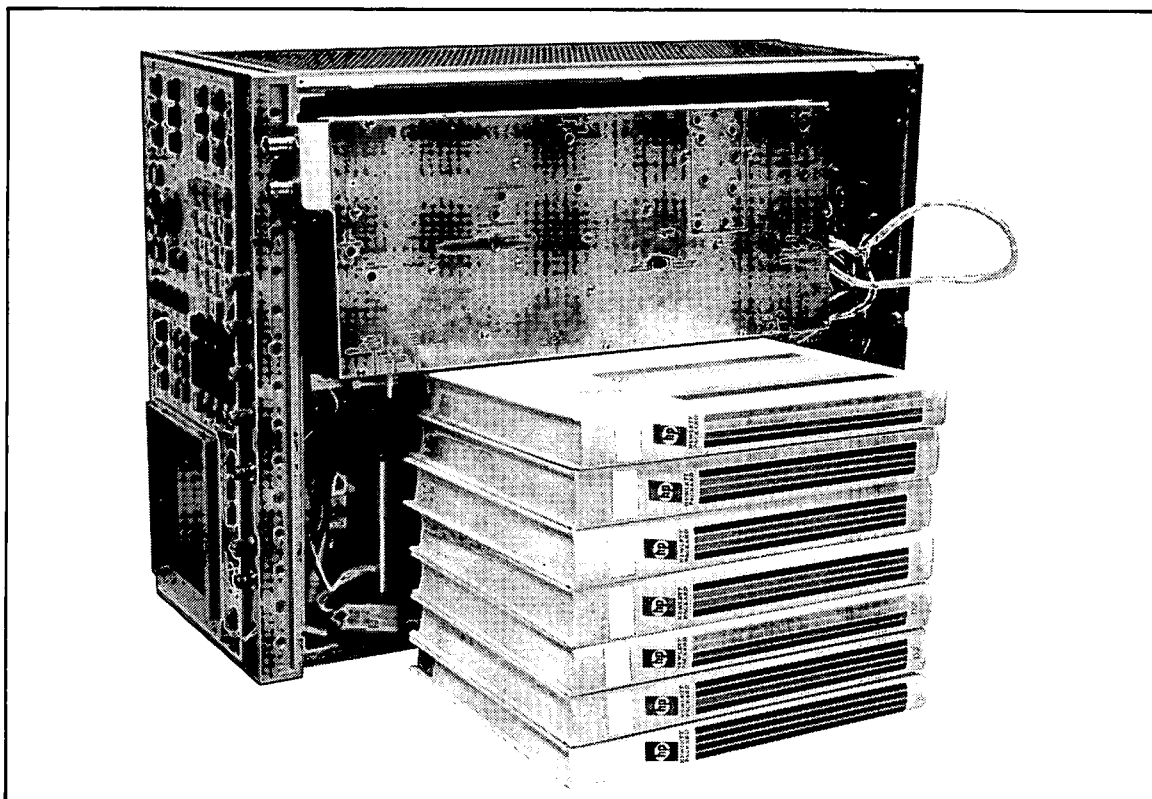

Figure 5-35. Input/Conversion Box Positioning For Adjustment
- a. Being careful not to harm any of the cables connected to the Input/Conversion Section, turn the Input box on its side so that the bottom (Input Section, A1 board) is accessible (see Figure 5-35).